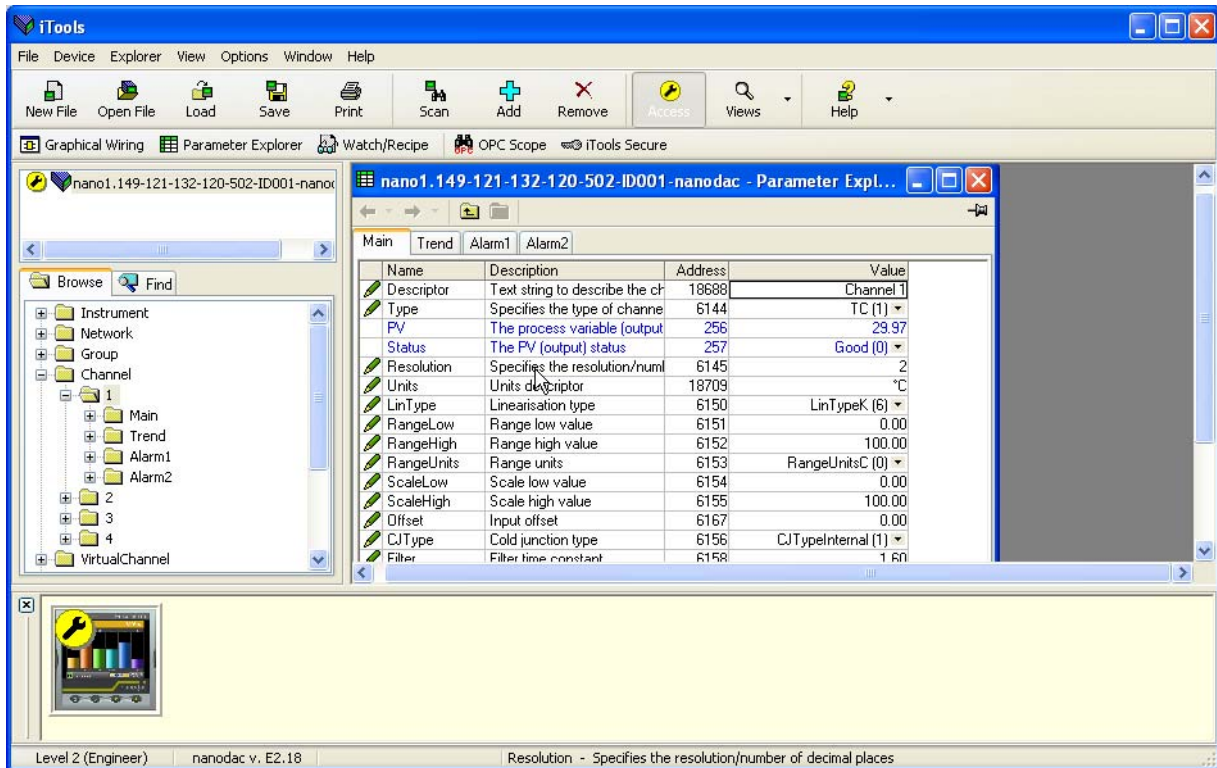
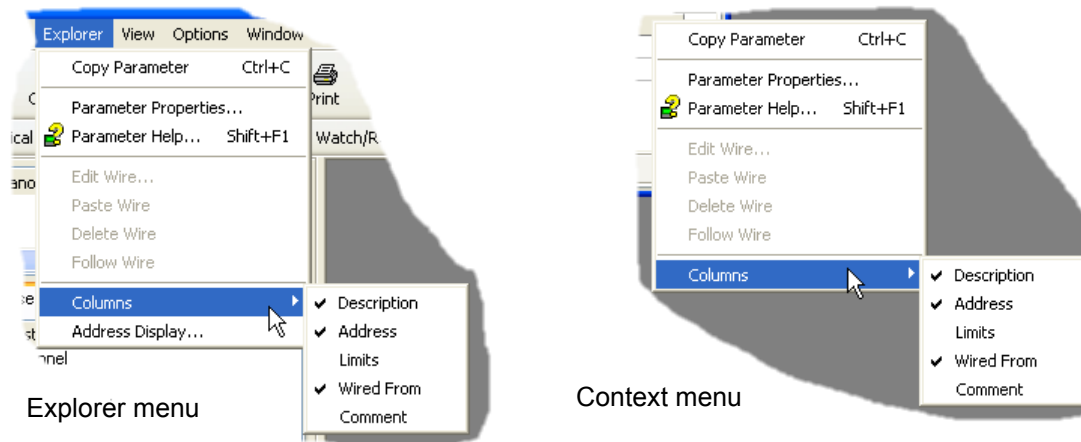

Figure 6.4a Parameter table example
Figure 6.4b Column enable/disable
In each case the function block parameters appear in the iTools window in tabular form, such as the example in figure 6.4a, below.
The figure above shows the default table layout. Columns can be added/deleted from the view using the 'Columns' item of the Explorer or context menus (figure 6.4b).
- Note: 2. Columns. The default explorer window (figure 6.4a) contains the columns 'Name', 'Description', 'Address', 'Value', and 'Wired From'. As can be seen from figure 6.4b, the columns to be displayed can be selected, to a certain extent, using either the 'Explorer' menu or the context menu.